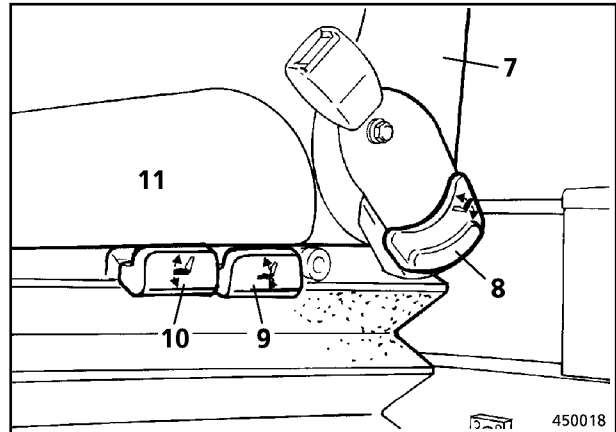

Fig. 5
Adjust backrest inclination (7, Fig. 5) with lever (8). Pull lever (8) upwards and push/pull backrest forwards or backwards. Release lever (8) when desired position is reached.
Pull lever (9, Fig. 5) upwards - tilt seat (11) as desired. Release lever (9).
Pull lever (10, Fig. 5) upwards - slide seat (11) to desired position. Release lever (10).